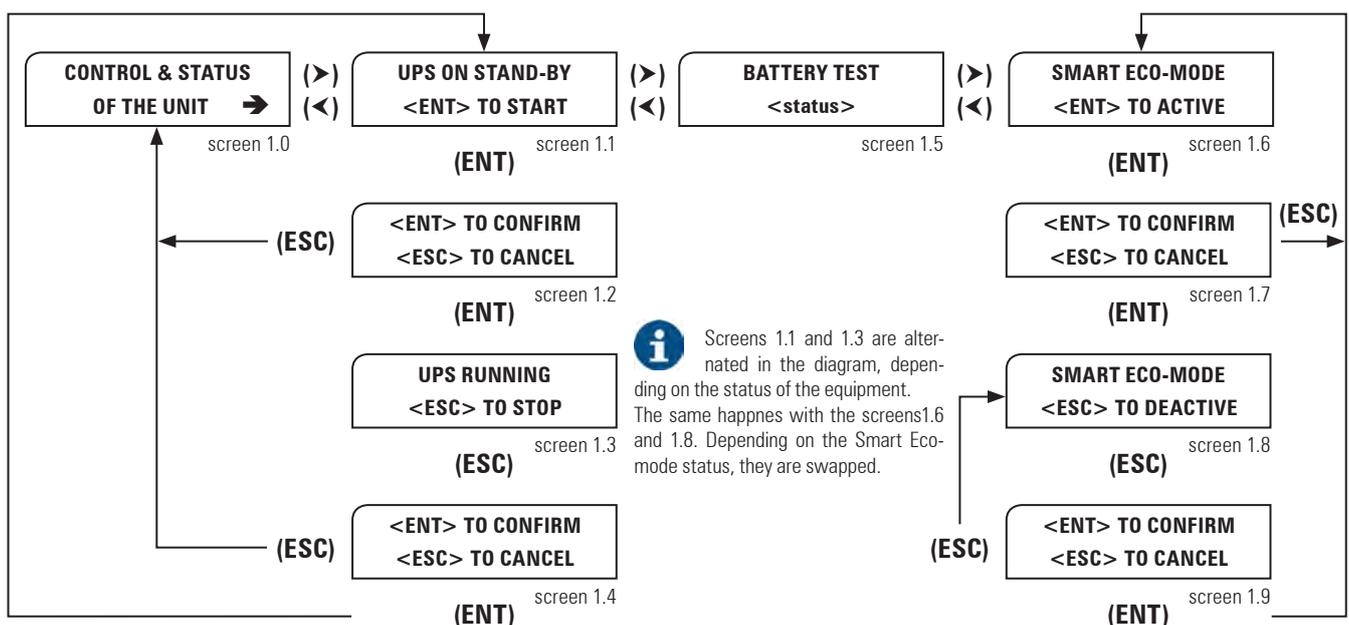
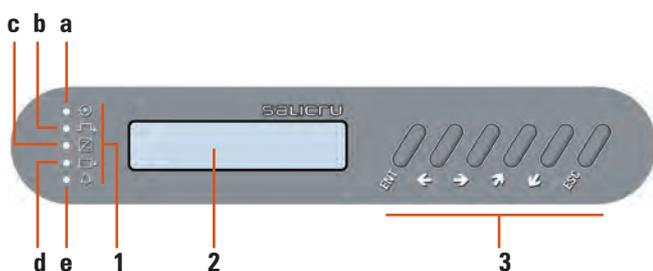

Fig. 39. Diagram, start up/shutdown procedure.
Fig. 40. Indications of LED from control panel **(PC)**.
- At this point, with no active alarm, green LED of Input Voltage OK (**a**) (see Fig. 40), should light in all UPSs.
- Start up the inverter, by means of the keypad (**3**) (see Fig. 40). In parallel systems make the procedure equipment by equipment the first time or after complete shutdown, in order to establish the communications among each unit of the system.
From main screen press (▼) key to access to «CONTROL AND STATUS OF THE UNIT» submenu (screen 1.0), and then press (▶) key. The screen 1.1 will be displayed, asking you to start the equipment up by pressing (ENT). Do so, and then validate the operation by pressing (ENT) again. See the diagram of Fig. 39.
- Make sure that the inverter on LED indication **(c)** lights (green), and bypass LED **(b)** is turned OFF in all UPSs (see Fig. 40).
- Start up the inverter by means of the keypad of the control panel (**3**) (see Fig. 40).
From main screen press (▼) key to access to «CONTROL AND STATUS OF THE UNIT» submenu (screen 1.0), and then press (▶) key. The screen 1.1 will be displayed, asking you to start the equipment up by pressing (ENT). Do so, and then validate the operation by pressing (ENT) again. See the diagram of Fig. 39. The UPS will take about 30 seconds to be operative again.
Through the keypad of control panel (**3**) (see Fig. 40) and from
main screen press (▼) key to access to «CONTROL AND STATUS OF THE UNIT» submenu (screen 1.0), and then press (▶) key. The screen 1.3 will be displayed, asking you to shutdown the equipment by pressing (ESC). Do so, and then validate the operation by pressing (ENT). See the diagram of Fig. 39.
Through the keypad of control panel **(3)** (see Fig. 40) and from main screen press **(▼)** key to access to «CONTROL AND STATUS OF THE UNIT» submenu (screen 1.0), and then press **(▶)** key. The screen 1.3 will be displayed, asking you to shutdown the equipment by pressing **(ESC)**. Do so, and then validate the operation by pressing **(ENT)**. See the diagram of Fig. 39.